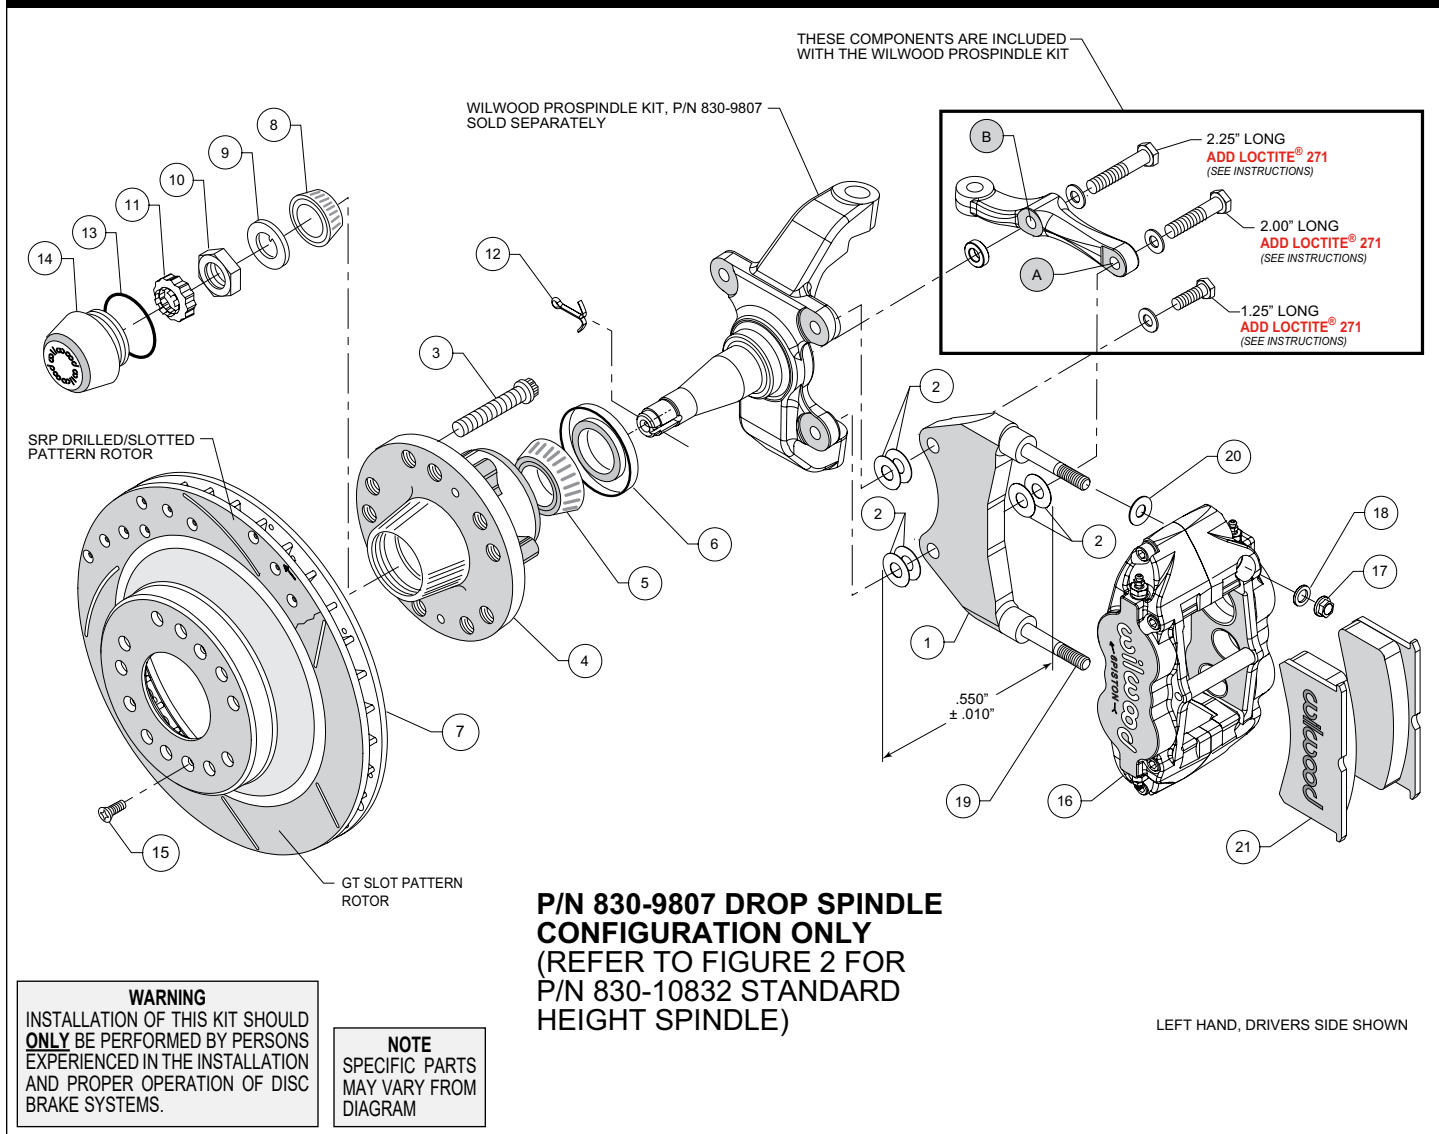

Figure 1. Installation Configuration For Drop Spindle, P/N 830-9807
Assembly Instructions (numbers in parenthesis refer to the parts list and Figures 1 or 2 on the preceding pages):
- NOTE:** Each Wilwood ProSpindle kit includes bolts, washers, and a spacer to mount the steering arm and caliper bracket. The various bolts are identified by length in the following instructions and in Figures 1 and 2.
- Orient the bracket as shown in Figure 1 and Photo 1. Install at top spindle hole using 1.25" long bolt and .06" thick washer (from ProSpindle kit), and two .016" thick shims (2) between the bracket and spindle, Figure 1.
- Orient the steering arm, and identify the hole marked 'A', as shown in Figure 1. Install at bottom spindle hole using 2.00" long bolt and .06" thick washer (from ProSpindle kit), two .016" thick shims (2) between the bracket and steering arm, and another two .016" thick shims (2) between the bracket and spindle, Figure 1. The bracket is located between the steering arm and spindle. **NOTE:** *The bracket and shim washers must add up to a total thickness of .550" ± .010", Figure 1.*
- Finish attaching the steering arm through the hole marked 'B', as shown in Figure 1. Install using 2.25" long bolt, .06" thick washer, and .25" thick spacer (all from ProSpindle kit), Figure 1.
- Pack the large inner bearing cone (5) with high temperature disc brake bearing grease (available from your local auto parts store) and install into the backside of the hub (4), Photo 4.
- Install the grease seal (6) by pressing into the backside of the hub (4), Photo 4.
- Pack the small outer bearing cone (8) with high temperature disc brake bearing grease and install into hub (4). Slide the hub assembly onto the spindle. Secure using spindle washer (9) and spindle nut (10), Photo 5. Bearing adjustment: Tighten the nut while turning the hub. When there is a slight bind on the bearings, they are seated correctly. Back the nut off about 1/6 to 1/4 of a turn, or sufficiently to allow .001" to .007" end play. **WARNING:** Failure to back off adjusting nut could cause bearing to run hot and be damaged, which could cause the wheel to lock or come off. Install spindle nut retainer (11) and cotter pin (12).
- Screw dust cap (14) into hub (4), Photo 6. Friction created by the o-ring (13) on the dust cap keeps it from unscrewing.
- Slide the hat/rotor (7) onto the hub (4) taking care to align the small countersunk holes in the hat with the small threaded holes in the hub. **NOTE:** The hat must fit flush against the hub face or excessive rotor run out may result. Install three flat head screws (15) through the small holes in the hat (7), Photo 6, and torque to 85 in-lb.
- NOTE:** This kit contains distinct right and left hand calipers that must be mounted in a specific direction, as described below. Initially place one .035" thick shim (20) on each stud (19) as shown in Figure 1 or 2, and Photo 7. Mount the caliper (16) onto the bracket (1) using lock nuts (17) and washers (18), Figure 1 or 2. Ensure that the caliper is mounted so that the largest pistons are at the rotor exit end of the caliper, in relation to the direction of rotor rotation. Temporarily tighten the lock nuts and view the rotor through the top opening of the caliper. The rotor should be centered in the caliper, Photo 8. If not, proceed as follows:
- Adjust by adding or subtracting shims (2) between the bracket and the spindle. Always use the same amount of shims on each of the two bolts between bracket and spindle.
- For the lower bracket mount bolt, if a shim was added between the bracket and spindle, then a shim must be removed between the steering arm and bracket, such that the total thickness of bracket and shims remain equal to $.550 \pm .010$ ", Figure 1.